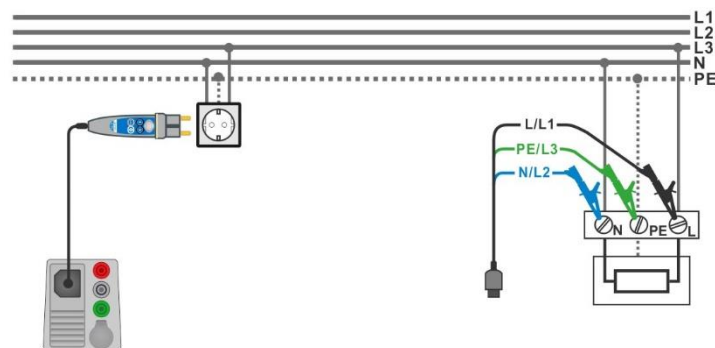

Figure 7.97: Connection of Plug commander and 3-wire test lead
- › Connect 3-wire test lead or Plug commander to the object under test, see **Figure 7.97**.